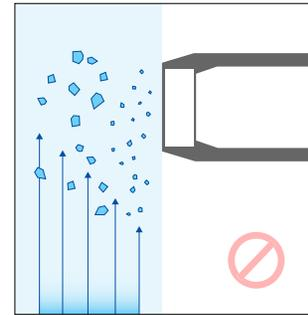

Figure 2: Non-ideal orientation—
- Mount the probe window flush with the pipeline or reactor wall (**Figure 2**). Friction at the wall will prevent particles from getting close to the window.